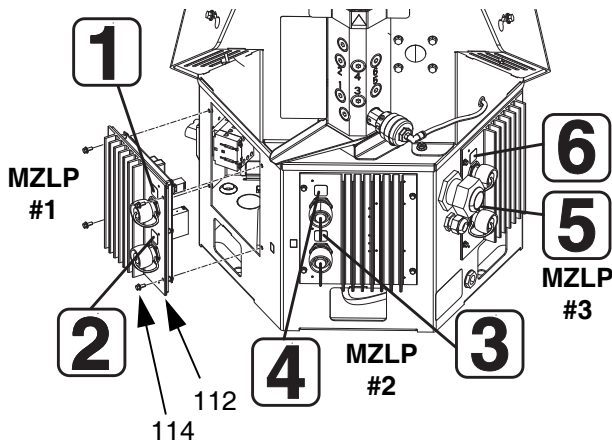

FIG. 45
2. Remove electrical enclosure front access door (10).
3. Disconnect heated hose electrical connectors from outside of MZLP (112).
4. Note location of each cable, then unplug all cables from the MZLP (112) that will be replaced. See FIG. 45.
5. Remove four screws (114) securing MZLP (112) to electrical enclosure (1) then carefully remove MZLP from electrical enclosure. See FIG. 45.
6. Replace MZLP. See FIG. 45 for MZLP #1, MZLP #2, and MZLP #3 identification.
- b. To replace MZLP #3, remove the jumper (135) from MZLP #3 J5 connector and reinstall it on the new MZLP #3 J5 connector.
2. Apply channel label stickers to new MZLP. See FIG. 45.
3. Use four screws (114) to install MZLP (112) to electrical enclosure (1).
4. Reconnect cables to MZLP (112).